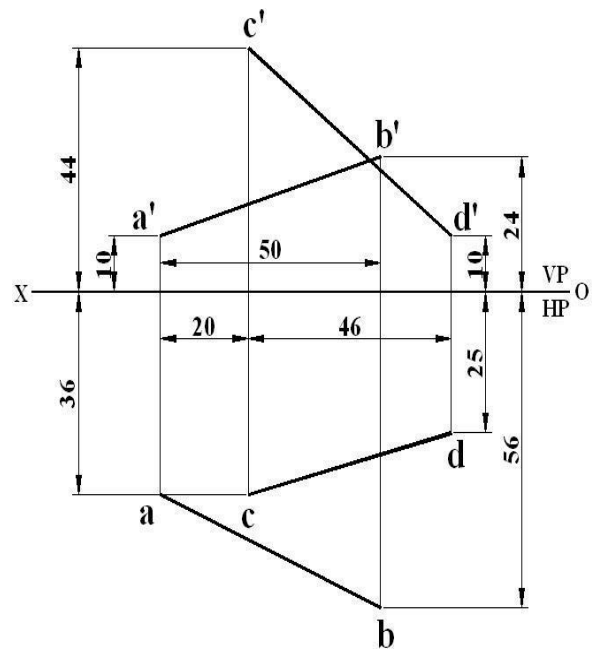

Figure P4.10
10. Determine the shortest distance between the skew lines **AB** and **CD** shown in Figure P4.10. Also determine true apparent angle between them.